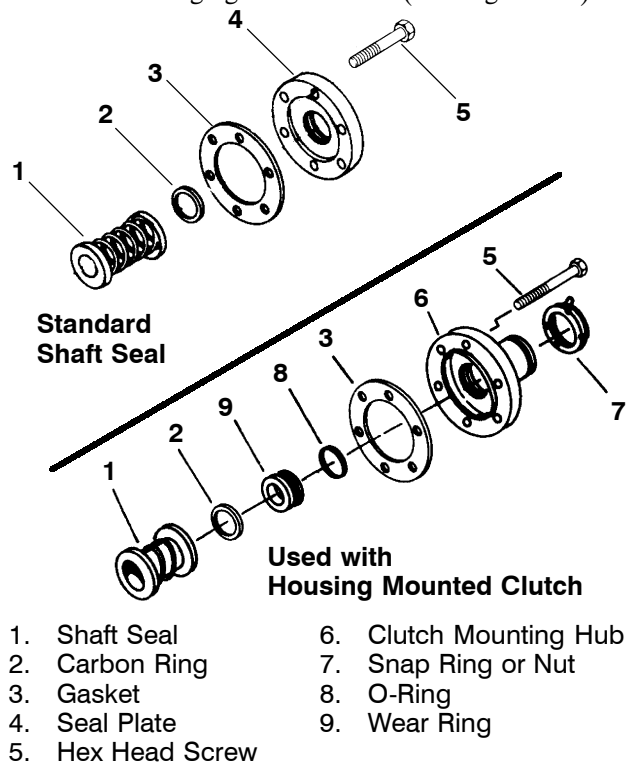

Figure 3-8. Shaft Seal
1. Remove 6 cap screws, remove shaft seal cover or clutch mounting hub and carbon washer. (See Figure 3-8)